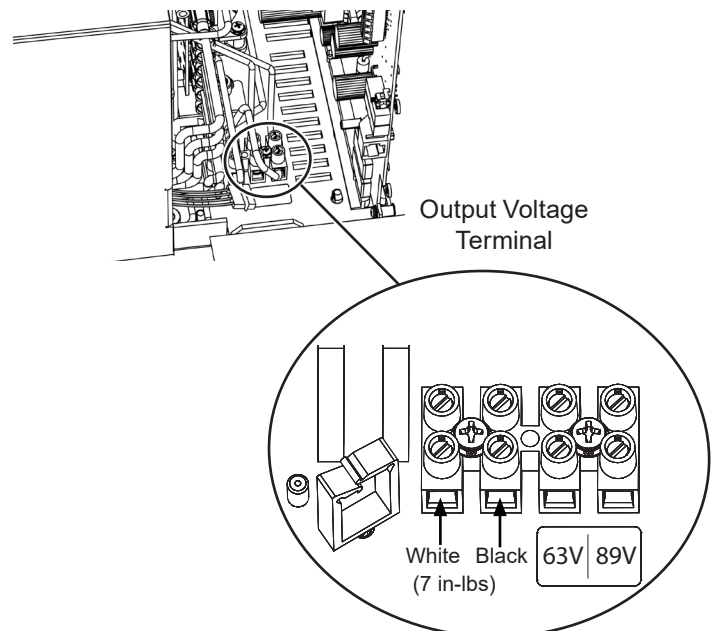

Fig. 2-13, Voltage Terminal Location and Wire Position
2. Loosen the terminal screw and move the Output Voltage Wire to the desired output voltage position on the Output Voltage Terminal (see Fig. 2-13).